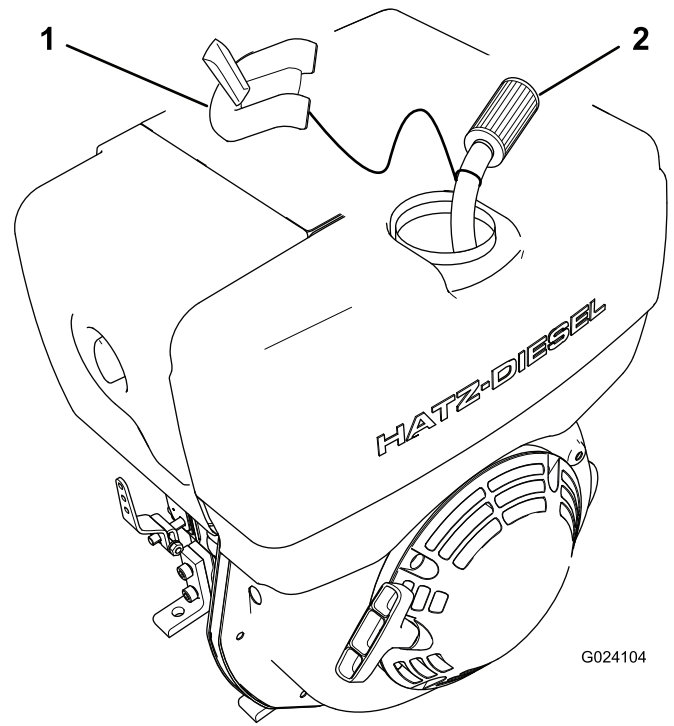

Figure 19
3. Pull the fuel filter out of the fuel tank (Figure 19).